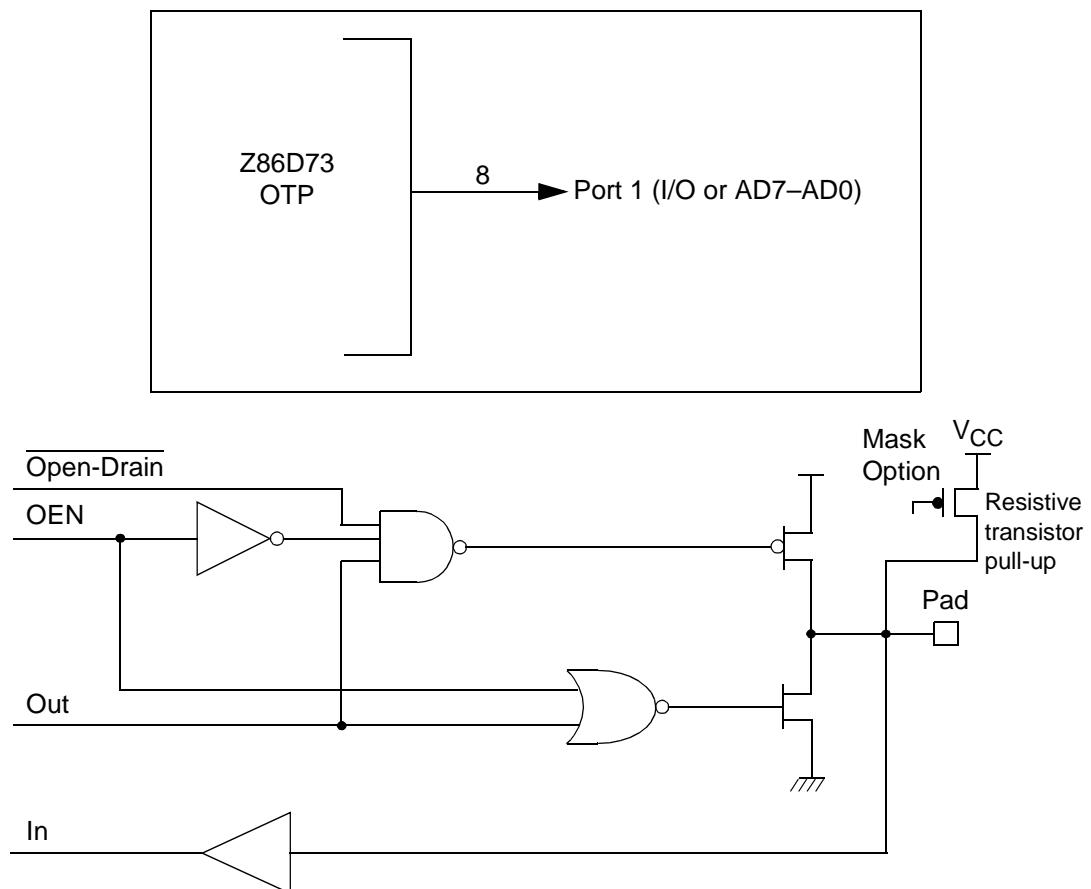

Figure 11. Port 1 Configuration
Port 1 (see Figure 11) is a multiplexed Address (A7–A0) and Data (D7–D0), CMOS-compatible port. Port 1 is dedicated to the ZiLOG ZBus®-compatible memory interface. The operations of Port 1 are supported by the Address Strobe (AS) and Data Strobe (DS) lines and by the Read/Write (R/W) and Data Memory (DM) control lines. Data memory read/write operations are done through this port. If more than 256 external locations are required, Port 0 outputs the additional lines.